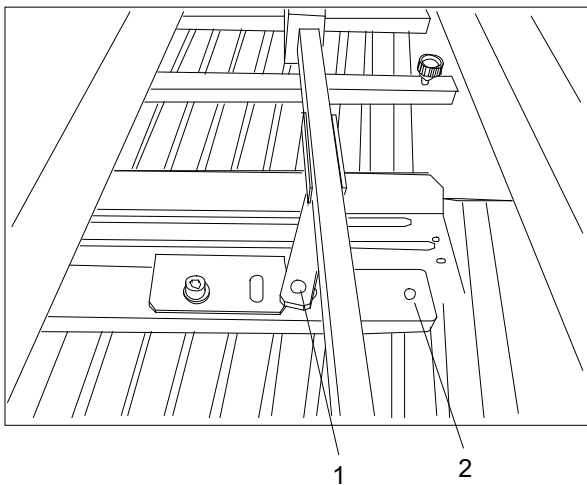

Fig. 84 Setting the hold-down slide forward
5. Introduce the 7 mm screw of the hold-down slide (Fig. 84/1) into the front hole (Fig. 84/2) of the longitudinal crossbar and tighten it with the flat wrench.